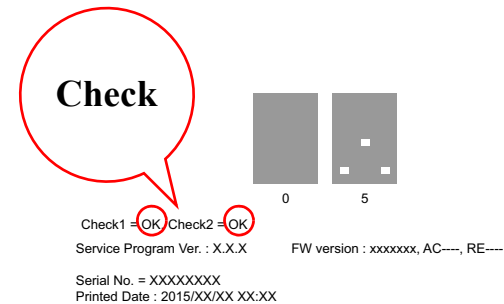

Figure 5-42. Adjustment Pattern
4. See the printed pattern and check the pattern in the position shown in the Figure 5-42.